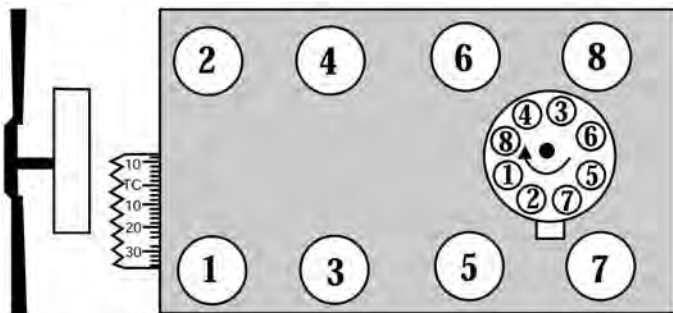

Figure 1 - 283-400 c.i.d Chevrolet V8
15. Remove fuel pump and fuel pump pushrod. Rotate engine until timing marks are aligned as in Figure 1.
1. Turn the engine over in direction of rotation until the No. 1 intake valve closes and continue until the pointer on the front cover is approximately five degrees before top dead center (BTDC). See Figure 1 for firing order.